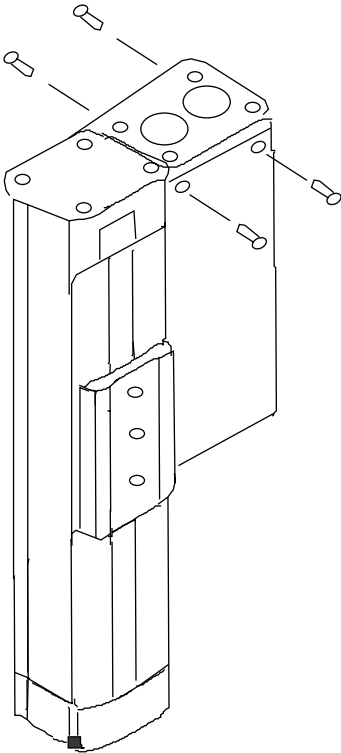

Figure B-16. Motor Cover Insertion
23. Install the motor cover (see Figure B-16).